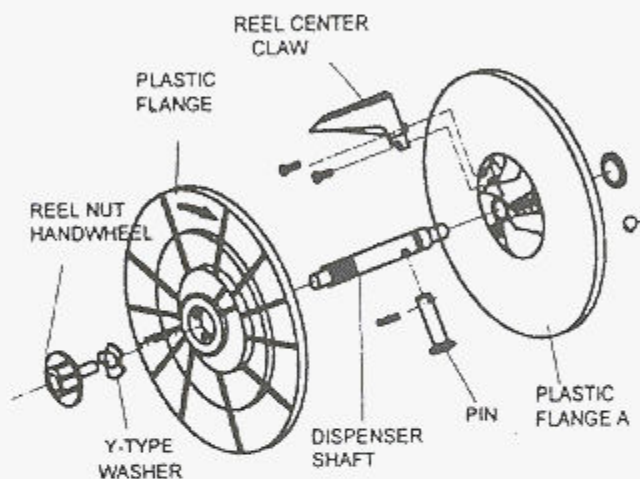

FIGURE 7. DISPENSER ASSEMBLY
Refer to Figure 7. and proceed as follow:
1. Withdraw the dispenser assembly. Place the assembly as shown. (Fig.7,P.6)